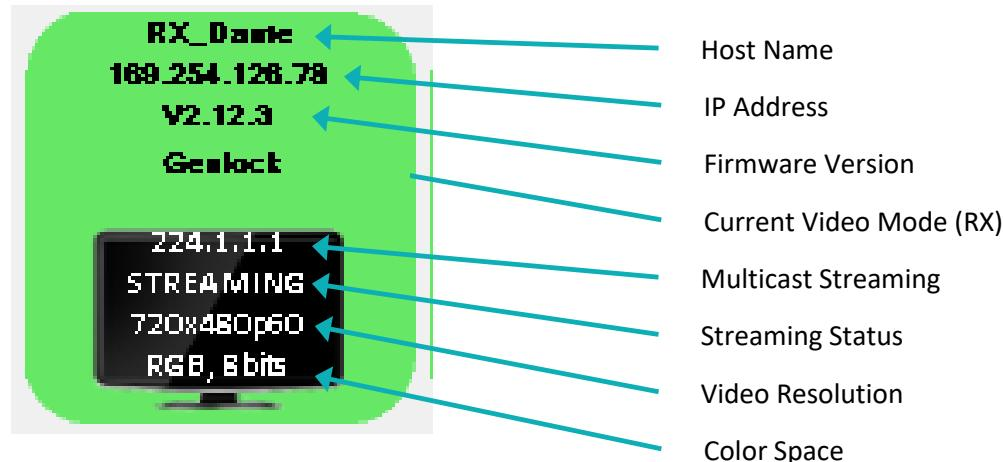

Figure 4: Example of data displayed for BlueRiver decoder (RX) device tile
- Note:** Refer to Figure 4: Example of data displayed for BlueRiver decoder (RX) device tile.
- a. Right mouse click over the appropriate Decoder (RX) tile.
3. Next join the BlueRiver decoder (RX) to the BlueRiver encoder (TX).
- a. In the Encoder section, select a BlueRiver encoder (TX) by clicking on its associated active (green) tile with left mouse button.
- b. While holding down the left button, drag the BlueRiver encoder (TX) over the BlueRiver decoder (RX) tile it is to be joined with.